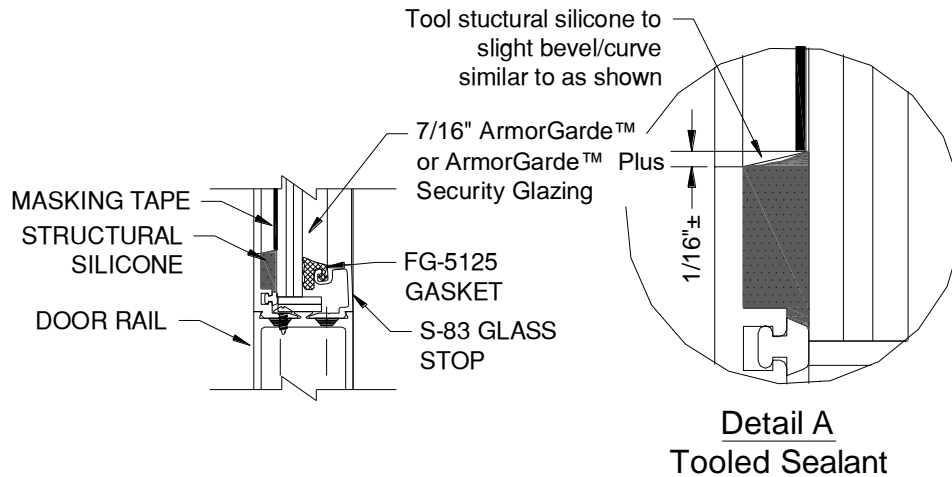

Figure 30: Wet Glazing Exterior of Door
- 12.5.2 Clean glass with isopropyl alcohol and mask off glass with 1" wide (minimum) low-adhesion masking tape. For masking tape application location, reference *Figure 30*.
- 12.5.3 Fill the cavity between the glass and the **D-152** Glass Stop with Structural Silicone Sealant, as shown in *Figure 30, Detail A*. Care should be taken not to leave any voids and to eliminate air bubbles in the sealant. Immediately tool, creating a finished joint with a slight beveled/curved joint surface.